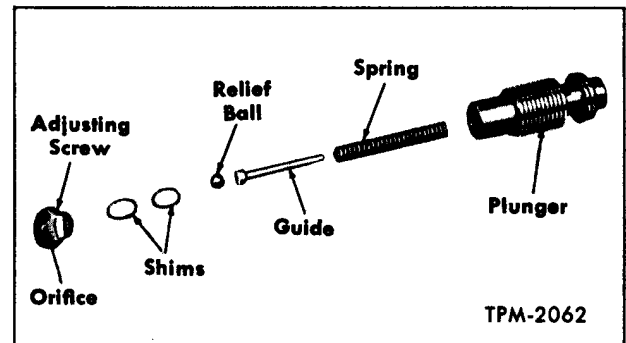

Figure 18—Flow Control Valve
15. Using needle nose pliers, remove drive shaft bearing snap ring (21) from pump body (24).
16. Pull drive shaft outer bearing (22) and drive shaft (20) from pump body (24). It may be necessary to tap on end of drive shaft with plastic hammer to facilitate removal.
17. If inspection indicates necessity for removal of bearing oil seal (23) and drive shaft inner bearing (18), drive seal out of pump body with punch and hammer; then using care to avoid damage to inner surface of pump body, remove inner bearing from pump body by tapping out lightly with hammer and brass drift.
18. Remove drive shaft key (19) from slot in rotor drive shaft (20).
19. If inspection indicates necessity for replacement of outer bearing (22), press bearing off drive shaft (20) using a 1" I.D. sleeve.
20. If flow control valve assembly (fig. 18) is to be disassembled for inspection or cleaning purposes, maintain pressure on spring loaded plug to prevent loss of poppet relief ball. Be careful not to score ground surfaces of flow control valve.
1. If flow control valve assembly (fig. 18) has been disassembled, assemble parts, making sure same number of shims are installed as were removed. These shims control pressure at which relief valve opens to 950-1000 psi pressure. Tighten relief valve adjusting screw to 80-100 inch-pounds torque.
2. If drive shaft outer bearing (22) was removed from drive shaft (20), press bearing on shaft, using a sleeve with 1" I.D. Install bearing on shaft with stamped face of inner race toward threaded end of shaft.
3. If drive shaft inner bearing (18) was removed from pump body (24), install bearing in pump body by tapping lightly on bearing outer race. Make sure bearing is fully seated in pump body.
4. If bearing oil seal (23), was previously removed from pump body (24), install new oil seal in bore of pump body. Use a sleeve with 1-5/8" diameter to bear against outer edge of seal when driving into position. Install seal with stamped side facing out. Make sure seal is properly seated in pump body.
5. Install drive shaft (20) and outer bearing (22) in bore of pump body (24). Tap lightly on outer race of bearing until bearing is fully seated; then install snap ring (21) in pump body.
6. If locating pins (25) were removed at pump disassembly, install new pins in pump body (24).
7. Install new sealing ring (36) in groove of pump body (24).
8. Install pump rotor (27) over splines of drive shaft (20); then position vanes in slots in rotor with beveled edges of vanes facing seal ring (36).
9. Carefully position pump body to cover ring (26) over pump rotor (27) and vanes (17) in alignment with mark made at disassembly. NOTE: Observe body to cover ring (26) which has arrows